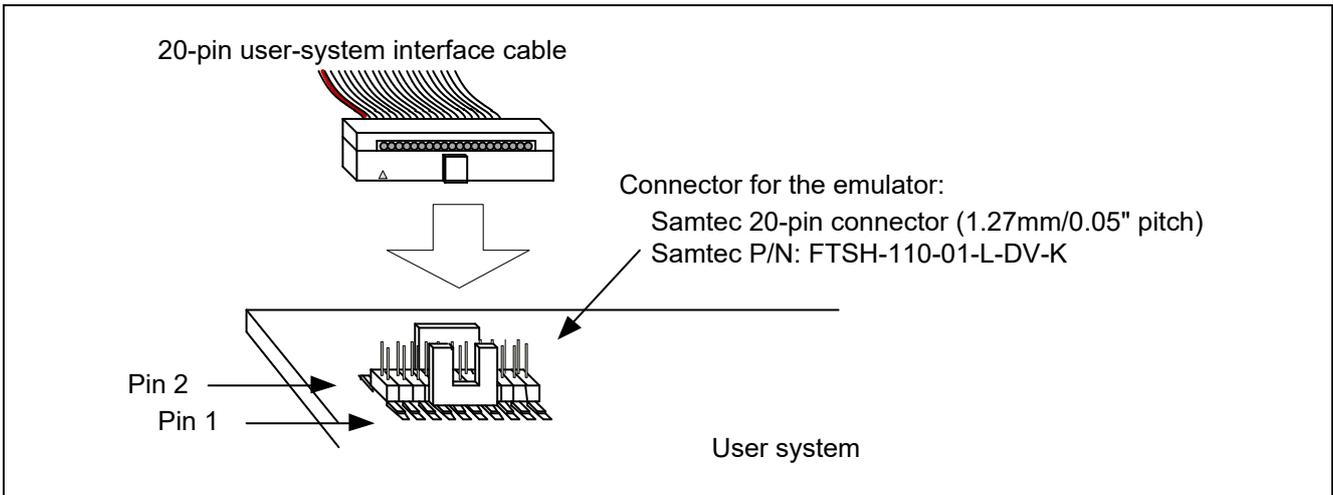

Figure 2.3 Connecting the User-System Interface Cable to the 20-Pin (1.27-mm Pitch) Connector on the User System
(3) For the pin assignments of the connector, refer to the additional document for user's manual for the E1/E20 emulator, E2 emulator Lite, or E2 emulator which corresponds to the target MCU.
(4) Connect one end of the user-system interface cable to the E2 and the other end to the connector on the user system as shown in Figure 2.3 and Figure 2.4.